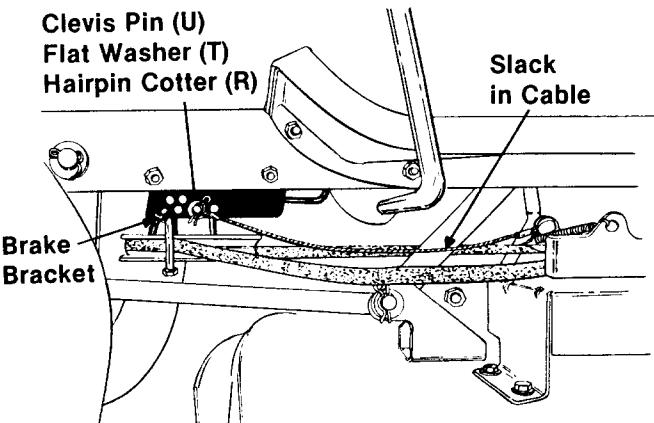

FIGURE 28
2. Pull the cable toward the front of the tractor and line it up with a hole in the brake bracket. Attach to the bracket with clevis pin (U), flat washer (T)
- and hairpin cotter (R). There should be some slack in the cable as shown in figure 28.